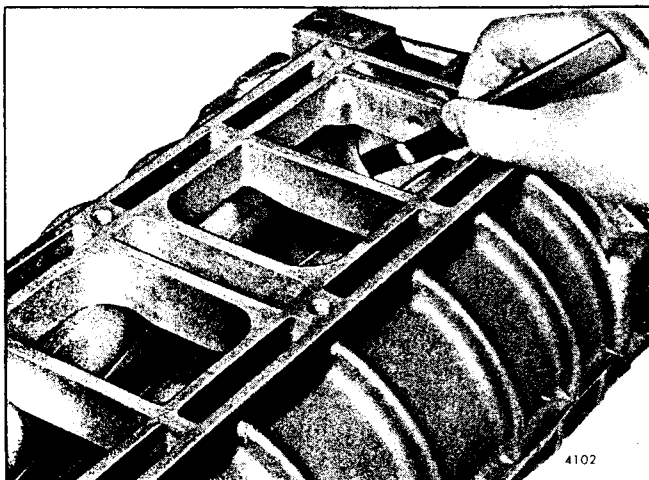

Fig. 21 - Measuring End Clearance Between Blower Rotors and End Plate
11. Place the blower assembly on a bench and make a preliminary check of the rotor-to-end plate and rotor-to-housing clearances at this time with a feeler gage as shown in Fig. 21. Refer to Fig. 19 for minimum blower clearances.
8. Determine the minimum clearances at points "A" and "B" shown in Fig. 19. Insert the feeler gages, as shown in Fig. 21, between the end plates and the ends of the rotors. This operation must be performed at the ends of each lobe, making 12 measurements in all. Refer to Fig. 19 for the minimum clearances.